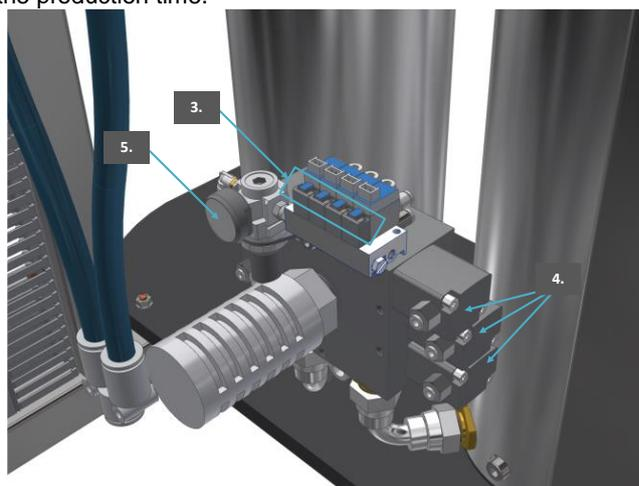

Figure 38. Valves
1. Check the pressure to the valve set (Figure 38 no. 5), this may not be lower than 5 bar. 6 till 8 bar is required for an optimal operation. When the pressure is lower than 5 bar, the pneumatic valves will not function probably.